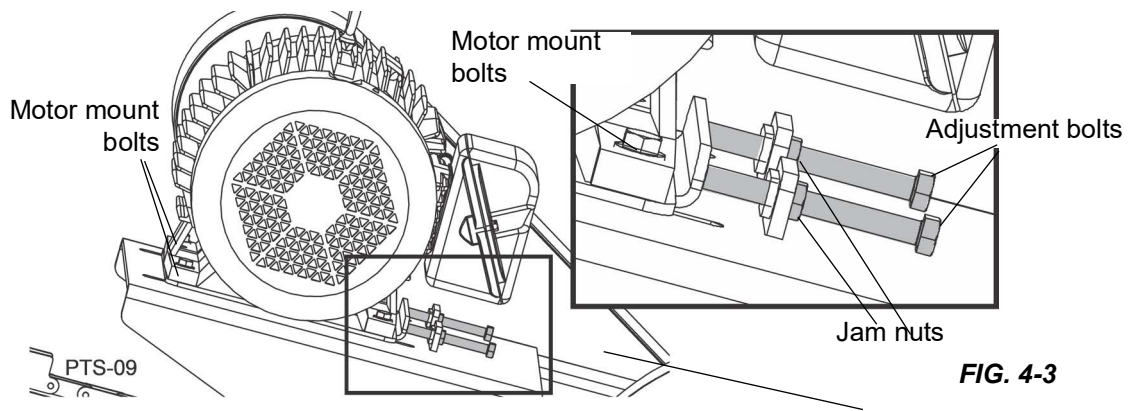

FIG. 4-3
4. Loosen (do not remove) the four motor mount bolts. See Fig. 4-3.
5. Decrease belt tension by loosening the adjustment bolts. (Loosen the jam nuts as necessary.) See Fig. 4-3.
- b. Tighten the adjustment bolt jam nuts when the proper belt tension is achieved. See Fig. 4-3.
10. Tighten the motor mount bolts. See Fig. 4-3.
3. Loosen (do not remove) the four motor mount bolts. See Fig. 4-3.
4. Decrease belt tension by loosening the adjustment bolts. (Loosen the jam nuts as necessary.) See Fig. 4-3.
8. Tighten the motor mount bolts. See Fig. 4-3.